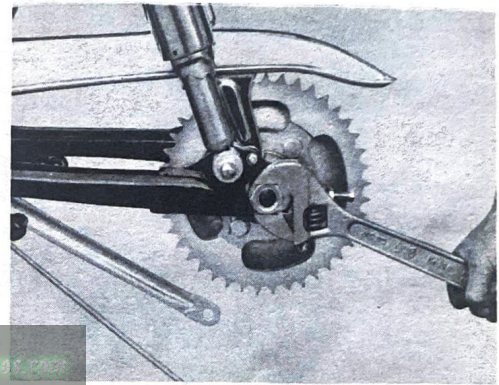

Fig. 5-4-2
- 2) Remove the sprocket shaft nut, and then the sprocket. (Fig. 5-4-2)